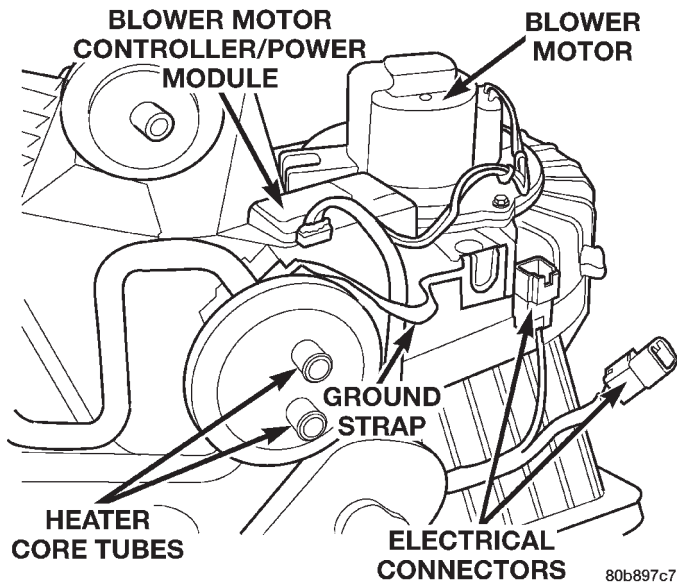
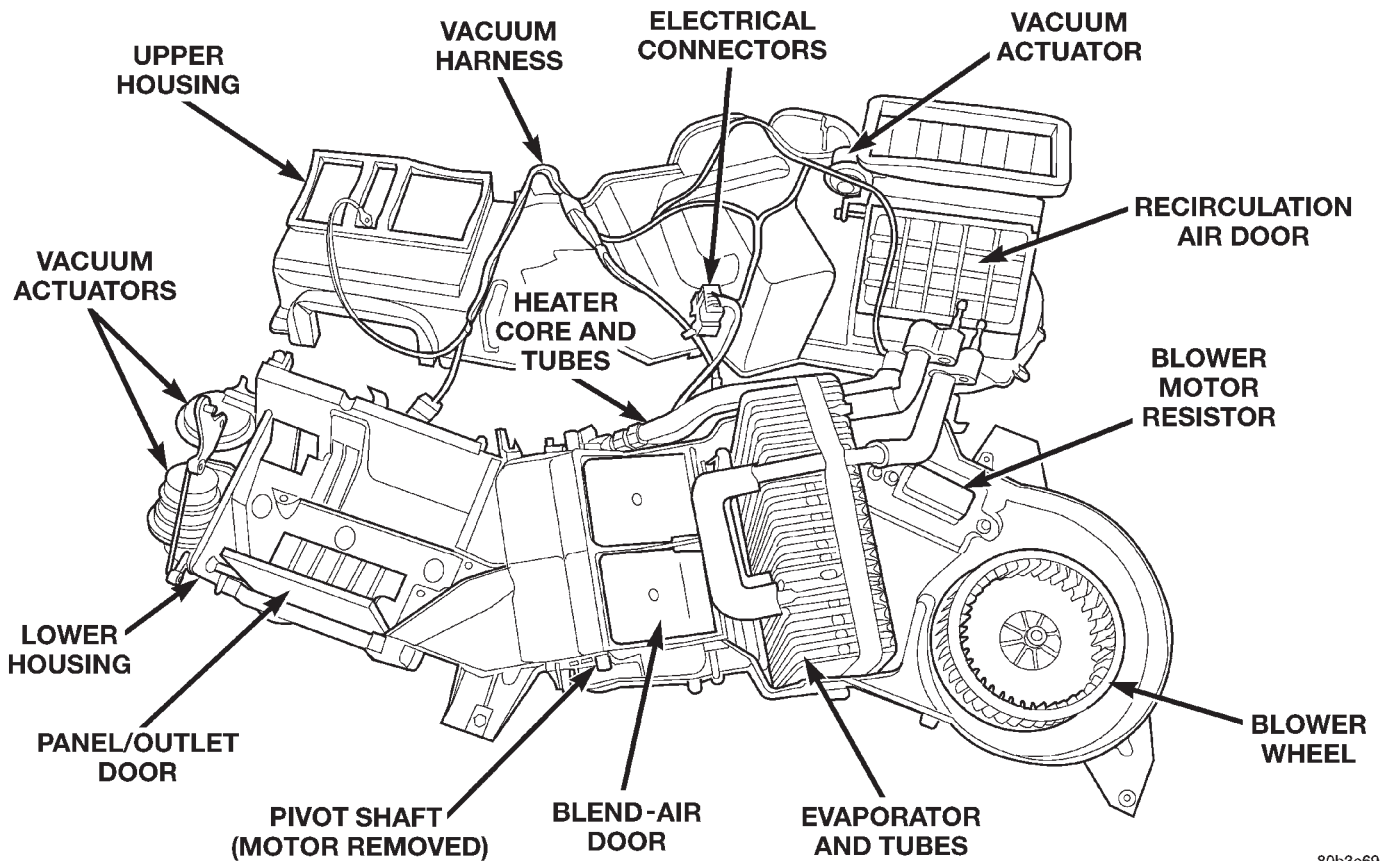

Fig. 22 Wire Harness Electrical Connector(s)
Fig. 23 Upper and Lower HVAC Housing-Separated
(8) Release the wire harness electrical connector(s) from the mounts on the lower case at the blower motor end of the unit (Fig. 22).
(9) Remove the 10 screws that secure the two housing halves to each other.
(10) Separate the top half of the heater-A/C housing from the bottom half (Fig. 23).
(11) Remove evaporator from lower case to ease access to plastic door shaft bushing.